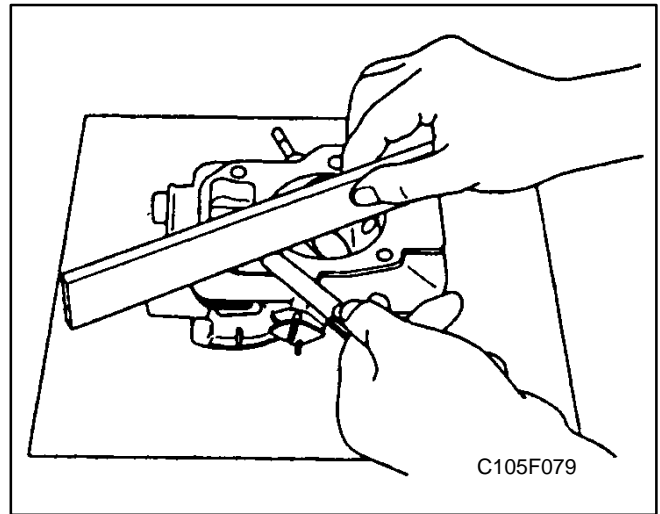

FIGURE 9-12. CYLINDER HEAD SURFACE FLATNESS
2. Place a straight edge on the top of the cylinder head as shown in Figure 9-12. Use a feeler gauge to measure the amount of distortion.